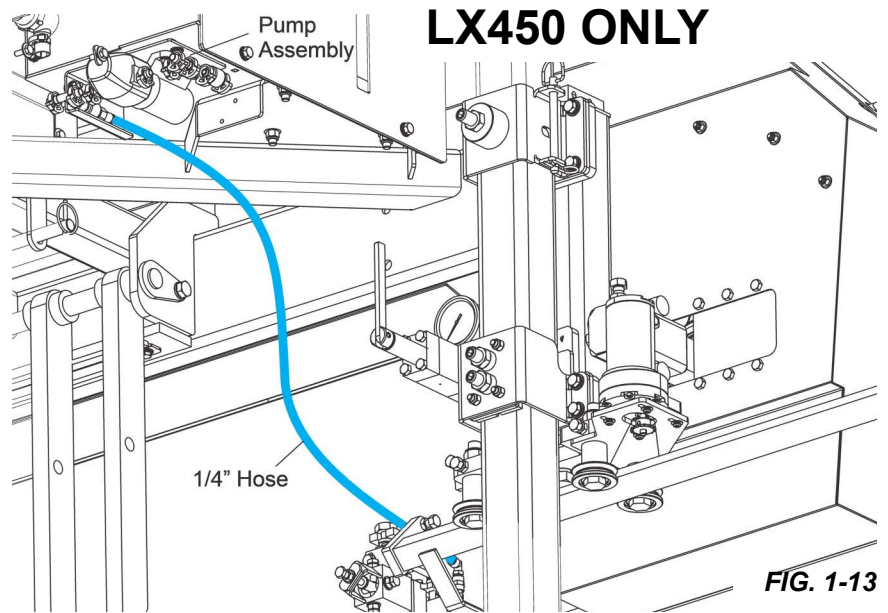

FIG. 1-13
3. Insert one end to the pump valve as shown in FIG. 1-13.